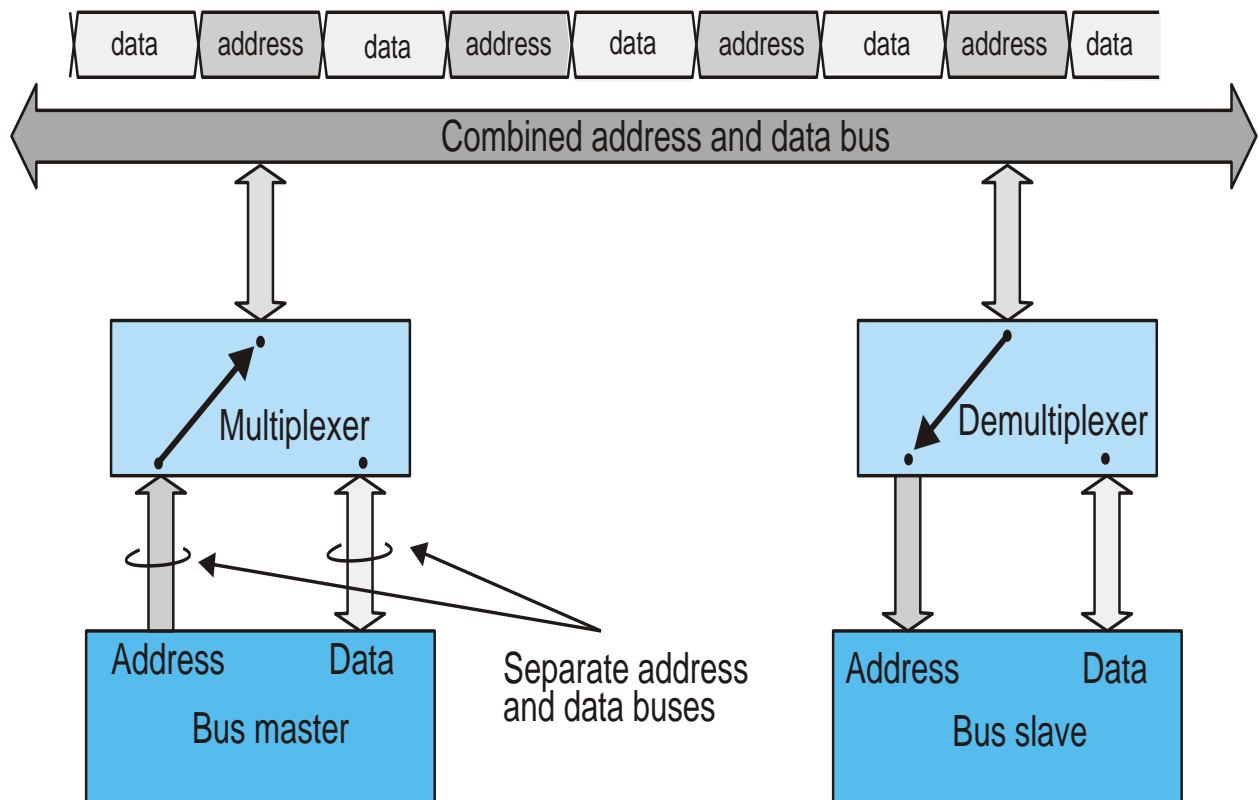

Figure 2: Multiplexing address and data
- **Figure 2** describes the multiplexed address/data bus, which is cheaper to implement than conventional non-multiplexed buses because it requires fewer signal paths and the connectors and sockets are cheaper since they require fewer pins.